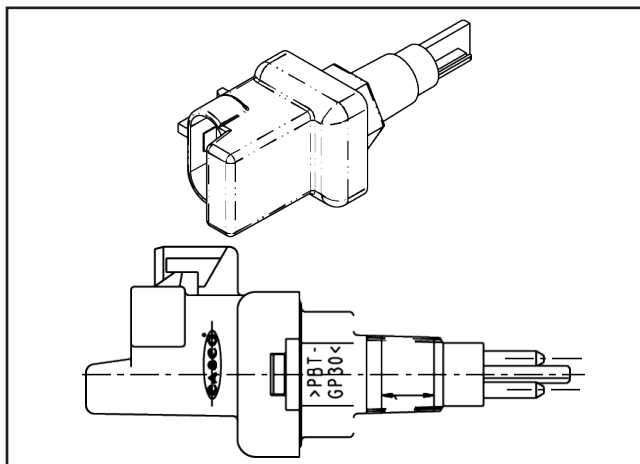

Figure 20
**NOTE:** The switch actuation temperature is usually noted on the switch (Figure 20).